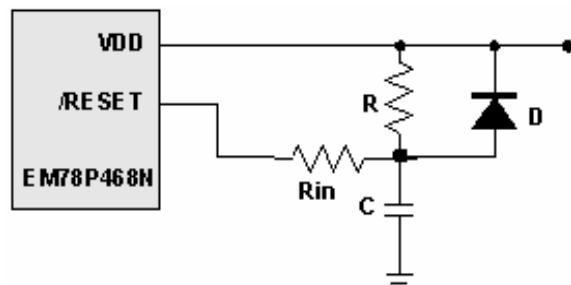

Fig. 12 External Power on Reset Circuit
This circuit implements an external RC to produce a reset pulse (see Fig.12). The pulse width (time constant) should be kept long enough to allow VDD to reach minimum operation voltage. This circuit is used when the power supply rise time is slow. Because the current leakage from the /RESET pin is about  $\pm 5\mu A$ , it is recommended that R should not be great than 40K. In this way, the voltage at Pin /RESET is held below 0.2V. The diode (D) acts as a short circuit at power-down. The capacitor, C, is discharged rapidly and fully. Rin, the current-limited resistor, prevents high current discharge or ESD (electrostatic discharge) from flowing into Pin /RESET.